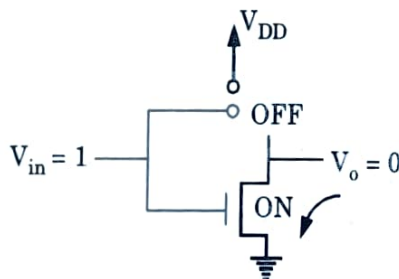

Fig. 1.13.2.
1. When input is high ($\approx V_{DD}$) Q_N is made to conduct, while Q_P is forced to cut-off. This causes the output becomes low ($V_o = 0$) as shown in Fig. 1.13.2.